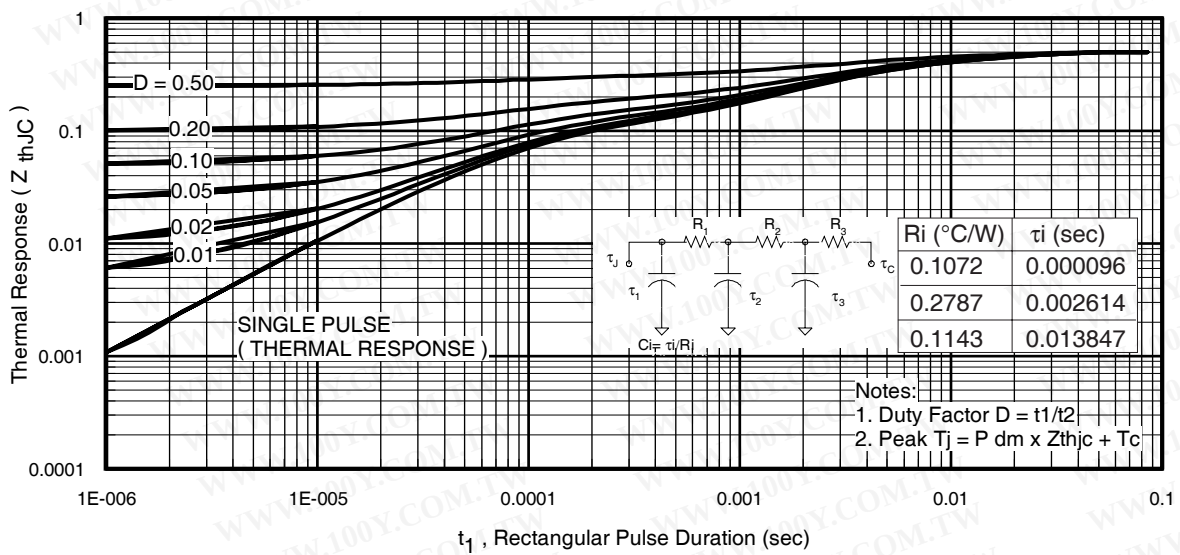
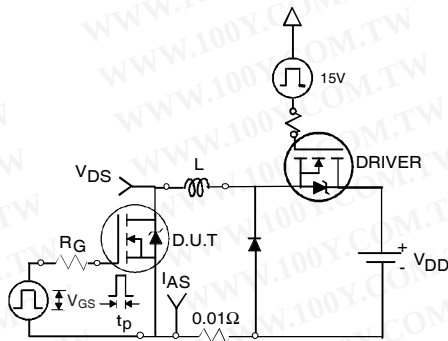

Fig 11. Maximum Effective Transient Thermal Impedance, Junction-to-Case
Fig 12a. Unclamped Inductive Test Circuit
- ① Repetitive rating; pulse width limited by max. junction temperature. (See fig. 11).
- ② Limited by T_{Jmax} ; starting $T_J = 25^\circ\text{C}$, $L = 0.026mH, R_G = 25\Omega, I_{AS} = 110A, V_{GS} = 10V$. Part not recommended for use above this value.
- ③ Pulse width $\leq 1.0ms$; duty cycle $\leq 2\%$.
- ④ $C_{oss \text{ eff.}}$ is a fixed capacitance that gives the same charging time as C_{oss} while V_{DS} is rising from 0 to 80% V_{DSS} .
- ⑤ Limited by T_{Jmax} ; see Fig.12a, 12b, 15, 16 for typical repetitive avalanche performance.
- ⑥ This value determined from sample failure population. 100% tested to this value in production.
- ⑦ This is applied to D²Pak, when mounted on 1" square PCB (FR-4 or G-10 Material). For recommended footprint and soldering techniques refer to application note #AN-994.
- ⑧ R_θ is measured at T_J of approximately 90°C .
3. Equation below based on circuit and waveforms shown in Figures 12a, 12b.
$Z_{thJC}(D, t_{av})$ = Transient thermal resistance, see figure 11)